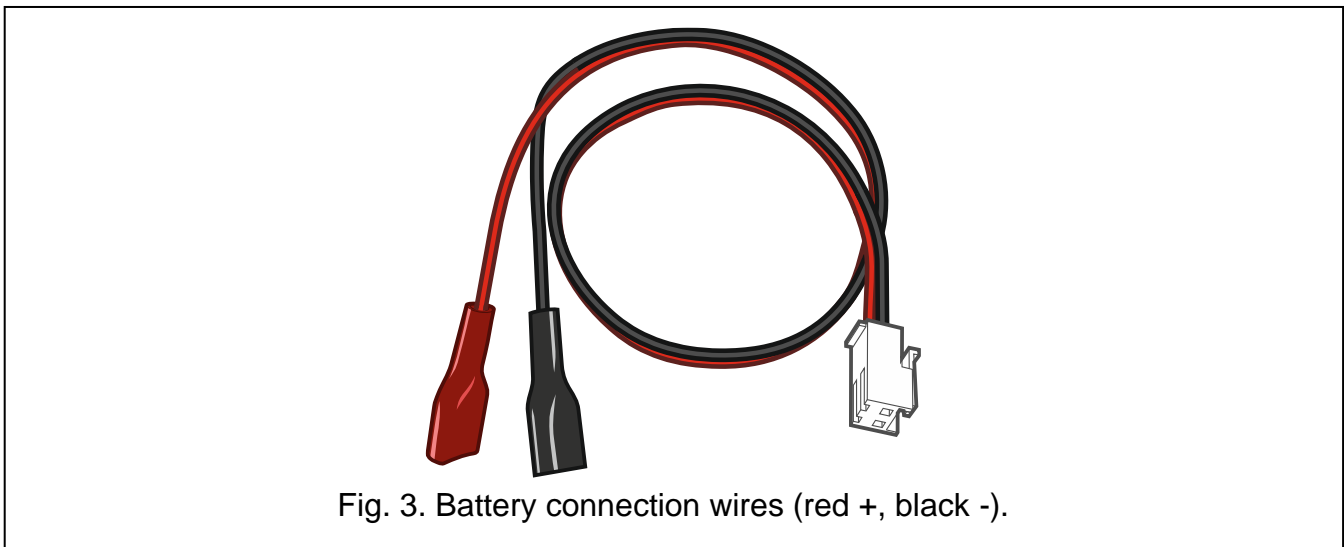

Fig. 3. Battery connection wires (red +, black -).
- ① LED indicators:
- ② RESET pins for emergency starting the control panel (see: “Emergency procedure of the control panel start-up” p. 30).
- ③ RS-232 (TTL) port.
- ④ connector for battery connection wires. The wires are included in the set (Fig. 3).
- ⑤ cable terminated with a connector for antenna. If the control panel is installed in a plastic enclosure, you can use an antenna that can be installed inside the enclosure (the antenna is delivered with the control panel). If the control panel is installed in a metal enclosure, use an antenna that can be installed on the enclosure or at a certain distance from the enclosure.
- ⑥ SIM1 LED. The LED is on, when the card installed in the SIM 1 slot is active.
- ⑦ SIM2 LED. The LED is on, when the card installed in the SIM 2 slot is active.
- ⑧ SIM1 slot in which the first SIM card is to be installed.
- ⑨ SIM2 slot in which the second SIM card is to be installed.
- ⑩ communication connector for connecting the PERFECTA-RF module.
- ⑪ mini-jack socket for connecting microphone.